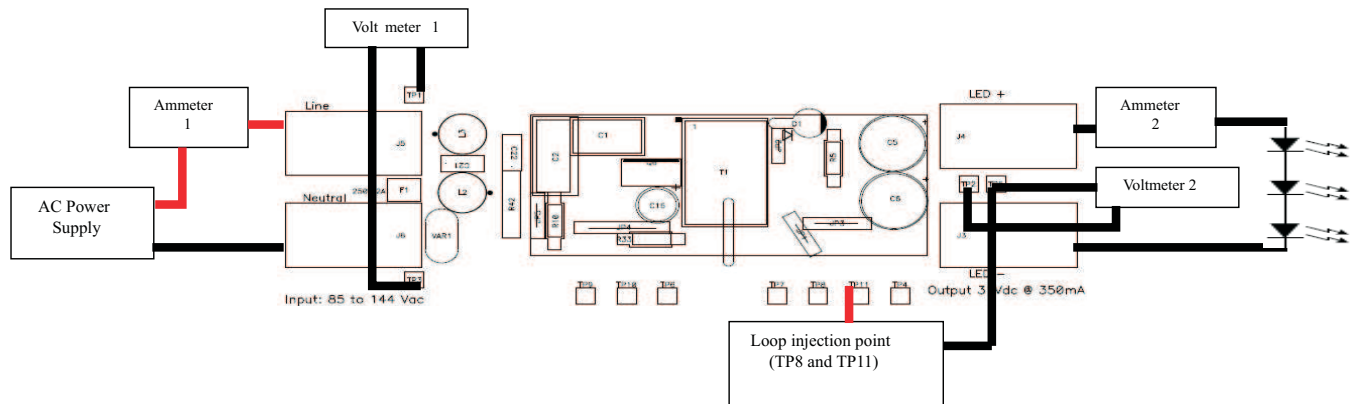

Figure 2. Recommended Test Setup
1. Connect EVM per Figure 2 above. An external LED load must be used to start up the EVM. (A frequency analyzer is not required for this procedure).
1. Set up the EVM per Figure 2.